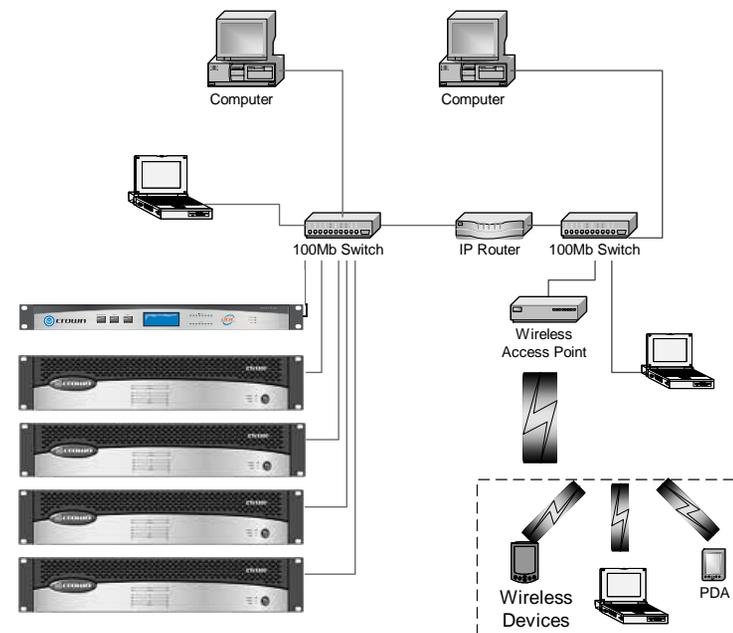

Figure 8.2 Multiple Network Communication Via an IP Router
**Internet Protocol (IP) Address:** The IP address of a component is assigned during the setup of the network and identifies the IQ component to a larger audience. Because the MAC address is limited to a single physical LAN, communications between LANs is impossible solely through the use of the MAC address. The IP address allows components and controllers on other networks to communicate with each other through the use of an IP Router as shown in Figure 8.2.